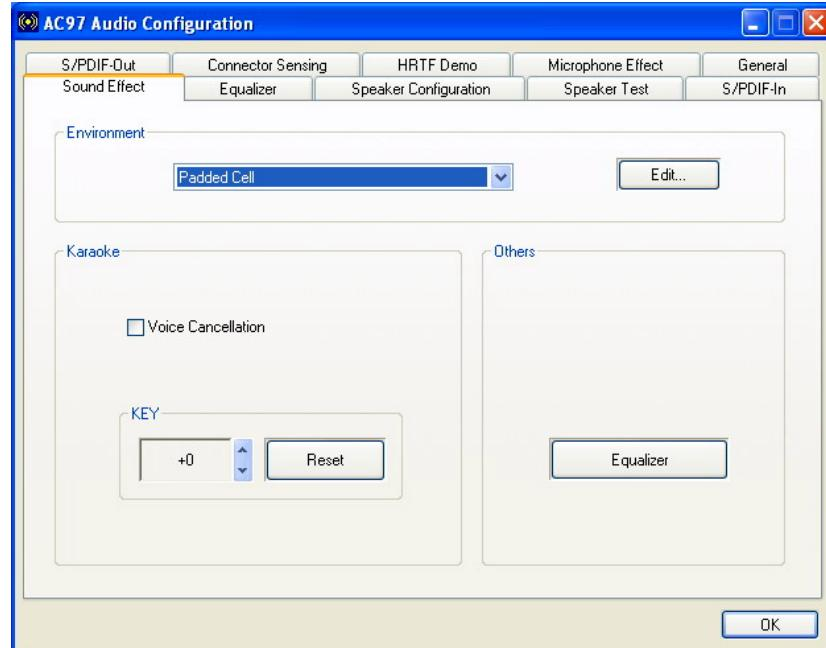

Figure D-4: Sound Effects Manager (ALC655)
Step 13: The sound effect manager appears. (See **Figure D-4**)
The Sound Effect Manager shown in **Figure D-4** is for the RealTek ALC655 audio CODEC. Different CODECs may have different sound manager appearances.
The **Sound Effects Manager** enables configuration of the items listed below. To configure these items click the corresponding menu tab in the **Sound Effects Manager** in **Figure D-4**.